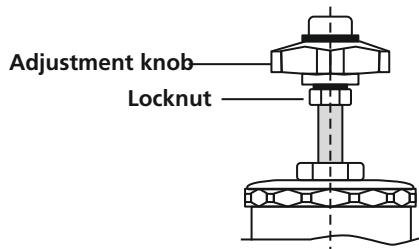

Figure12: Flow regulator
6.3 Commissioning of valve with flow regulator: (Refer to Figure 12)